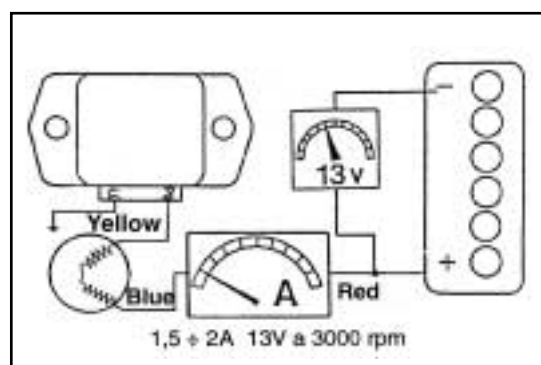

Fig. 3
- a) Connect an ammeter between the stator (blue cable) and the battery and check using tester 020331Y that the current distributed at 3,000 rpm and with the battery at 13 V is approximately 1.5 ÷ 2 Amps (Fig. 3).